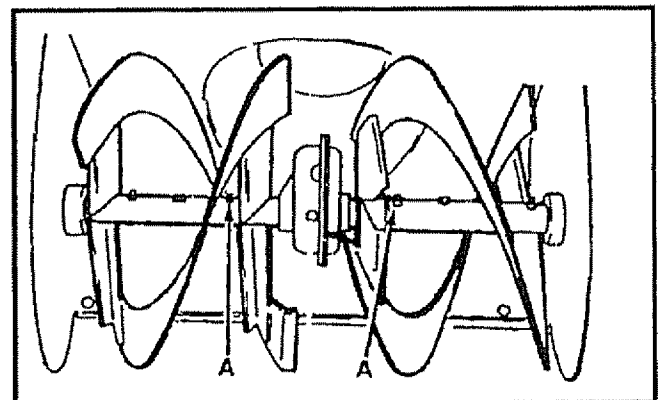

FIG.16
- Auger Shaft - Using a hand grease gun, lubricate the auger shaft zerk fittings (See A, Fig. 16) every ten (10) operating hours. Each time a shear bolt is replaced (see To Replace Auger Shear Bolt paragraph on page 22), the auger shaft MUST be greased.